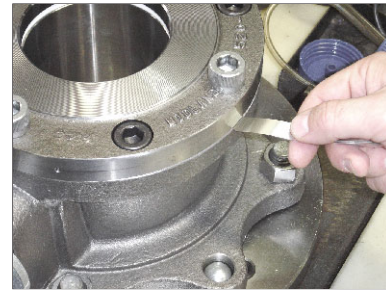

Figure 23 - Checking Cap-to-Body Contact
3.2.28 Use a .002 inch feeler gauge to confirm that the cap is in contact with the valve body all around, with no gaps allowed (Fig. 23).